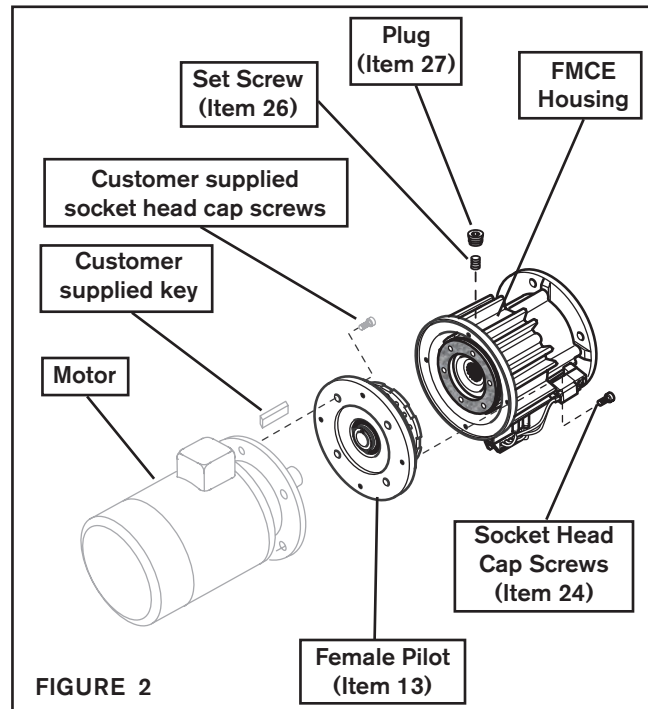

FIGURE 2
1. Insert the customer supplied key into the motor shaft keyway (See Figure 2).
2. Remove the Socket Head Cap Screws (Item 24) and the Female Pilot (Item 13); then, secure the Female Pilot to the motor face using customer supplied socket head cap screws (See Figure 2).
3. Slide the FMCE Housing (Item 1) onto the motor shaft (See Figure 2).
4. Apply a drop of Loctite® 242 to the threads of the Socket Head Cap Screws (Item 24) (See Figure 2).
5. Secure the FMCE Housing (Item 1) to the Female Pilot (Item 13) using Socket Head Cap Screws (Item 24); then, alternately and evenly tighten the Socket Head Cap Screws to the recommended torque (See Figure 2 and Table 1).
6. Align the Set Screw (Item 26) in the Drive Disc (Item 4) with the hole in the FMCE Housing (See Figure 2).
7. Tighten the Set Screw (Item 26); then, install the Plug (Item 27) (See Figure 2).